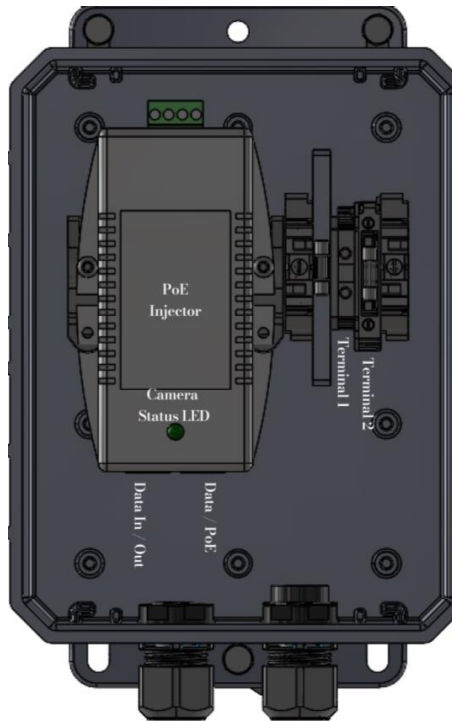

Figure 89 Kuva Power Box
1. Pass the end of the RJ45 Ethernet cable through the bottom left electrical gland in the Kuva Power Box as per Figure 89 and connect the other end of the Ethernet cable into the provided PoE injector, using the connection labeled “DATA/PoE”.
4. The camera status LED (PoE Power LED) will temporarily turn red for approximately 10 seconds and then turn green as per Figure 89